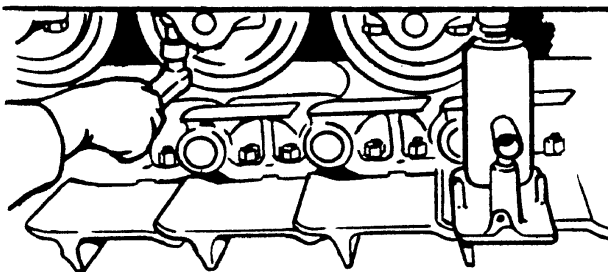

Fig. 14.21. Removing Roller
5. Remove the bolts securing the track roller brackets to the track frame (Fig. 14.21).